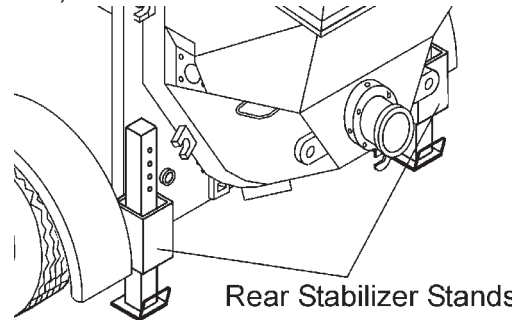

Figure 16. Locating Rear Stabilizer Stands
15. Locate both the left and right rear stabilizer stands (Figure 16).